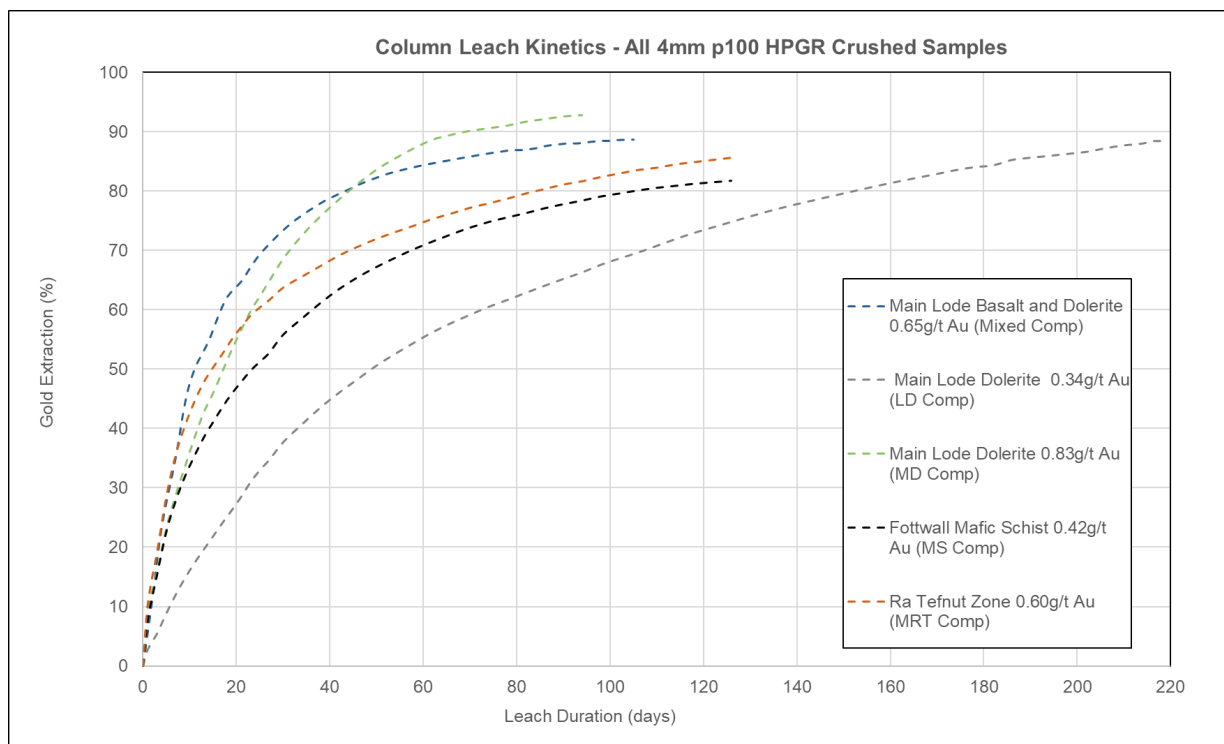

Figure 1 – Column Leach Recovery Test Curves 4mm P₁₀₀ HPGR – strong leach kinetics and overall recovery results.
- One column leach sample, the LD Comp (leach curve represented in Figure 1), chosen to represent a low-grade dolerite sample (targeting 0.34 g/t Au) showed slower leach kinetics and eventually returned a calculated head grade of 1.5 g/t Au when deliberately stopped at 219 days despite indications that leaching was continuing. This unusually long leach time was likely due to the ongoing leaching of coarse nuggety gold, illustrated by a relatively high Au grade reported for a one twenty-fourth split of the samples